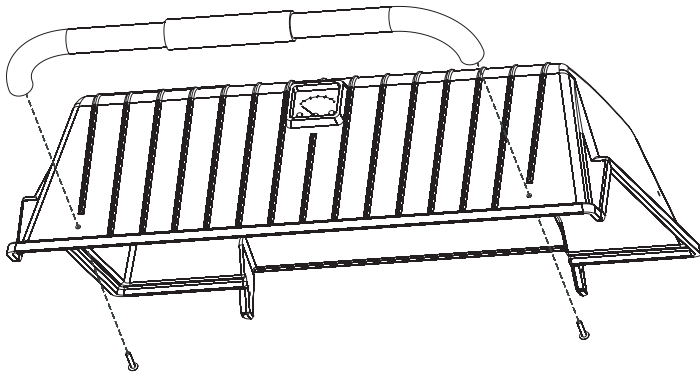

Figure 33
9. Fasten the lid handle to the grill body top with two #10-24 x 1" screws. **See Figure 33.**